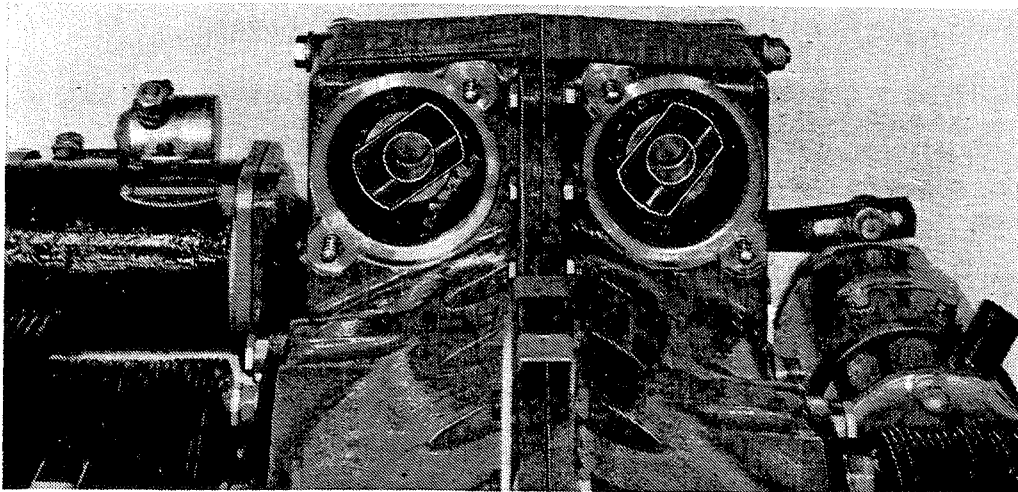

FIGURE 72-60-14. POSITION OF MAGNETO COUPLINGS.
A. With engine in upright position, insert one pressed steel retainer (18) into each gear hub slot.
B. Cover each of four new rubber coupling bushings with a film of Molyshield grease and insert two bushings (21) into each retainer, rounded long edges first.
C. Turn the crankshaft to the No. 1 cylinder advance firing angle as described in Figure 72-60-17. Install sleeve (19) into magneto drive gear (20). Lubricate each gear (20) and insert into bushings (15). Observe the shaft ends from the rear as they are carefully pushed through the adapter oil seals to make sure the oil seal lips are not reversed or damaged. Mesh the magneto drive gears to the idler gear to the approximate position shown in Figure 72-60-14. These positions will vary slightly due to the difference in magnetos and gears.